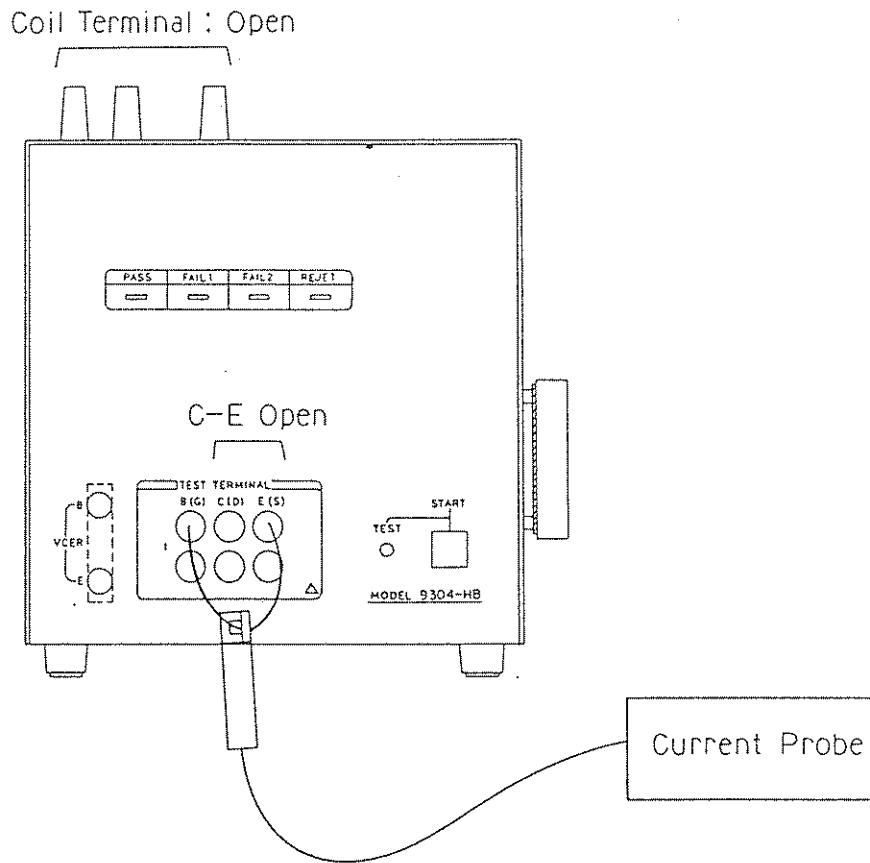

Figure 6.2a
- Set a current probe as shown in Figure 6.2a and get a reading of current waveform with an oscilloscope.